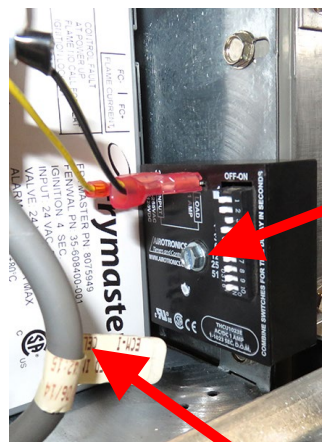

Figure 24
27. Attach the time delay relay to the bottom hole, in the lower right corner, of the control box (see Figure 24). Ensure the high voltage spark cable is not touching the time delay relay.